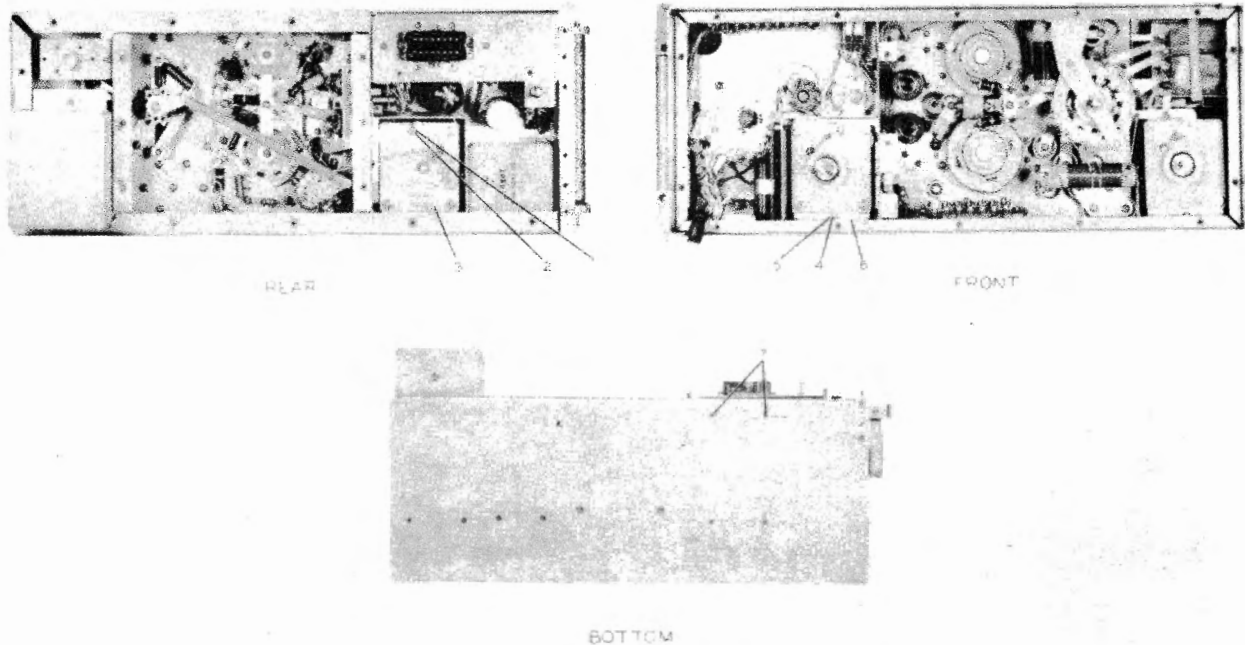

Figure 3-6. Radio Frequency Amplifier AM-2061/URT, Front, Rear, and Bottom Views
(4) Remove the binder-head screw (6), lock washer (7), and flat washer (8), that mount the rear of the variable inductor (3) to the chassis. The mounting hardware is located on the bottom of the enclosed section which extends beyond the back of the chassis.
(5) Carefully lift the front end of variable inductor L10 (3) to clear the lower lip of the chassis, at the same time pull the assembly forward to remove it.
f. VARIABLE INDUCTOR (L4) FROM CHASSIS. - Refer to figure 3-6 and proceed as follows:
(1) Viewing the radio frequency amplifier from the rear, remove nut (1) and lock washer (2) that mount the strap to variable inductor L4 (3).